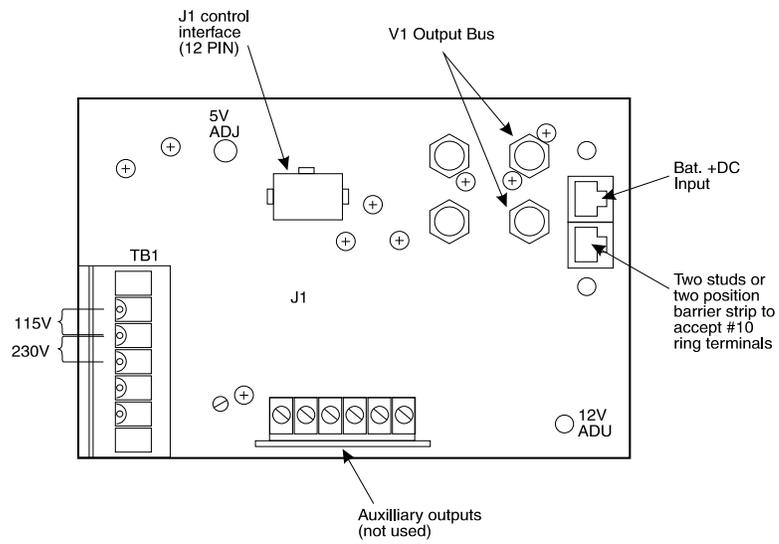
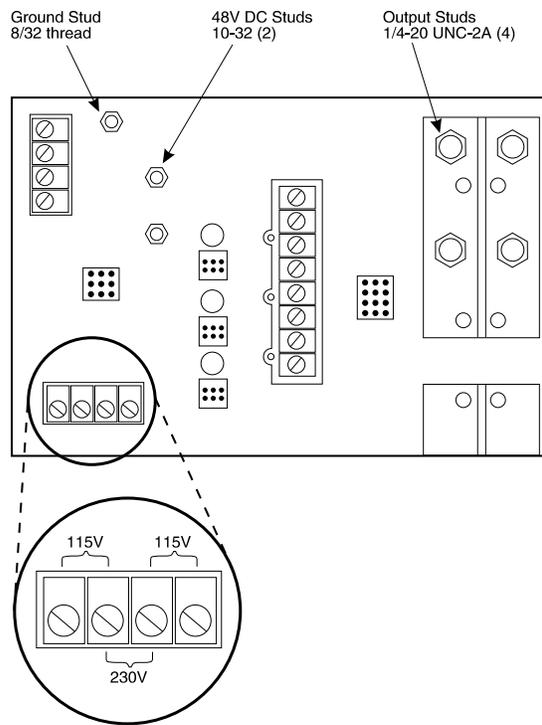
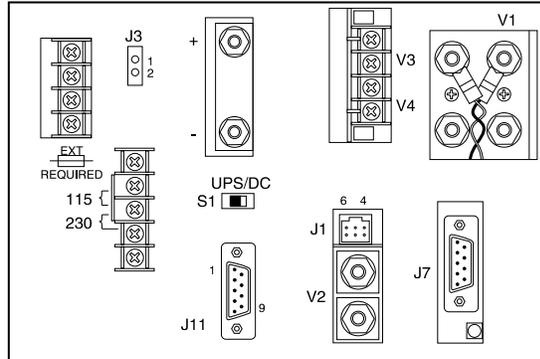

Figure 1-2. Jumper Settings for Intake Voltage on the UNIPower Power Supply
Figure 1-3. Jumper Settings for Intake Voltage on the LH Power Supply
Figure 1-4. Jumper Settings for Intake Voltage on the Modified LH Power Supply
4. Reset the jumpers if they are not set correctly for the intake voltage required at your location. See Figure 1-2, Figure 1-3, and Figure 1-4 for locations and settings of jumpers.